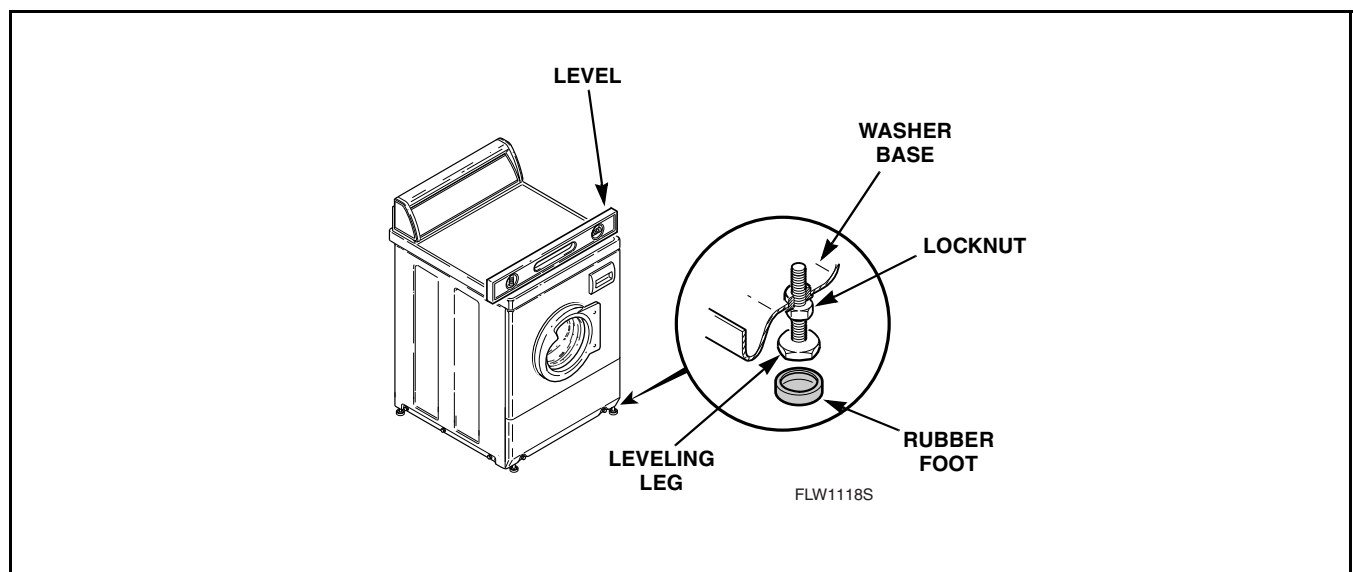

Figure 24
- Loosen locknuts and adjust the leveling legs until the washer does not rock. Refer to *Figure 24*.
**NOTE:** Level must rest on raised portion of top panel. Refer to *Figure 24*.
- Remove rubber feet from accessories bag and place on all four leveling legs. Refer to *Figure 24*.